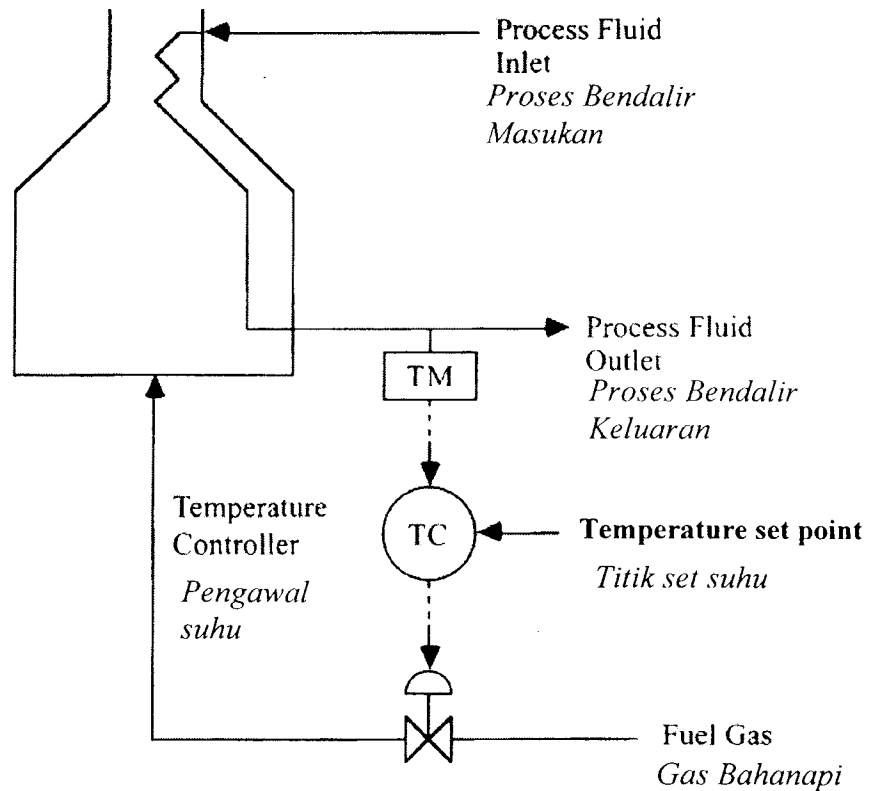

Figure Q.1. [b]: Furnace
- [b] A process furnace heats a process stream from near ambient temperature to a desired temperature of 300°C. The process stream outlet temperature is regulated by manipulating the flow rate of fuel gas to the furnace, as shown in Figure Q.1. [b].